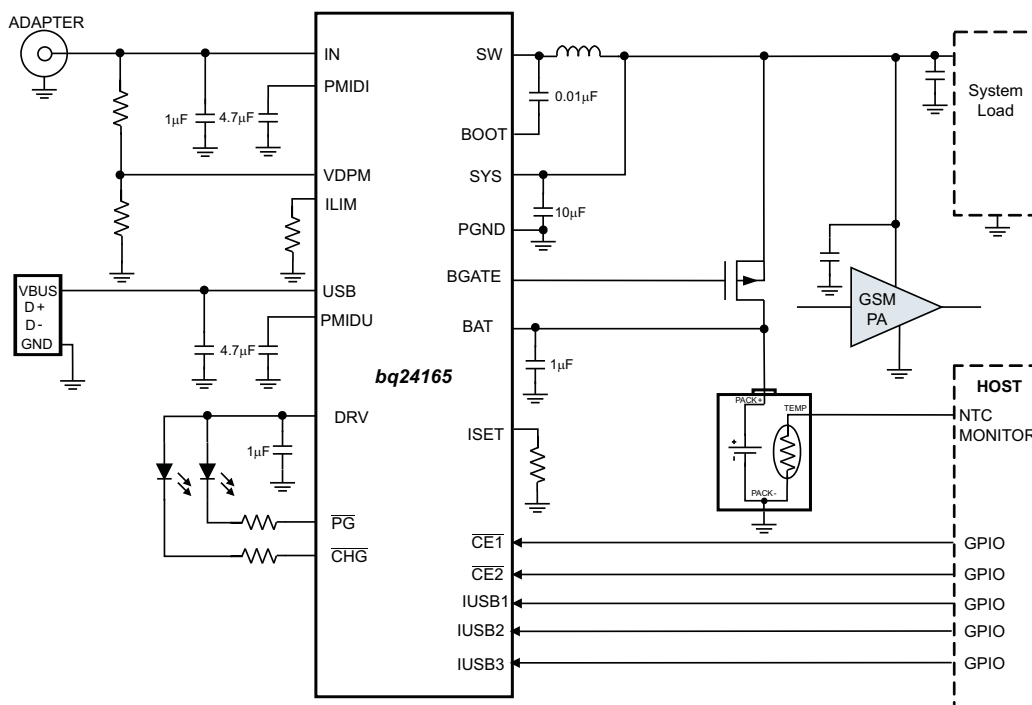

Figure 1. bq24165, Shown with External Discharge FET, PA Connected to System for GSM Call Support with a Deeply Discharged or No Battery
Circuit of Figure 1,  $V_{SUPPLY} = V_{USB}$  or  $V_{IN}$  (whichever is supplying the IC),  $V_{UVLO} < V_{SUPPLY} < V_{OVP}$  and  $V_{SUPPLY} > V_{BAT} + V_{SLP}$ ,
The charger's constant current (CC) loop regulates the charge current to  $I_{CHARGE}$  until the battery reaches close to the regulation voltage. Once the battery voltage is close to the regulation voltage,  $V_{BATREG}$ , the charge current step downs sharply as the constant voltage (CV) loop takes over, the internal battery FET turns on full, tying SYS to BAT and the charger tapers down the charge current as shown in Figure 1. The voltage regulation feedback occurs by monitoring the battery-pack voltage between the BAT and PGND pins.